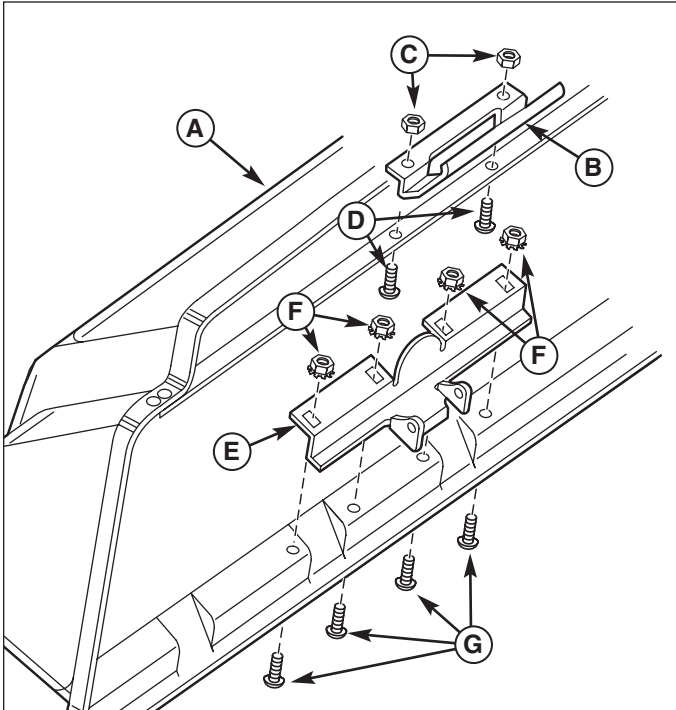

Figure 7. Install Latch & Hinge to Cover Assembly
1. Install the latch (B, Figure 7) to the cover assembly (A) securing with #10-24 x 5/8 screws (D) and #10-24 locknuts (C) as shown.
2. Install the hinge (E) to cover assembly securing with 1/4-20 x 1/2 screws (G) and 1/4-20 locknuts (F).